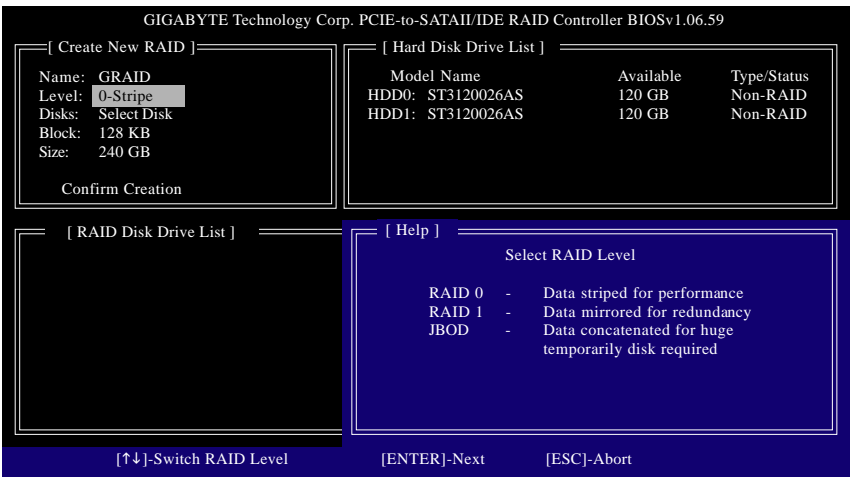

Figure 5
The Create New RAID block displays all the items that need to be set for creating an array (Figure 5).
2. **Select RAID Mode:** Under the Level item, use up or down arrow key to select RAID 0 (Stripe), RAID 1 (Mirror), or JBOD (Figure 5). Then press <Enter> to move onto the next step.